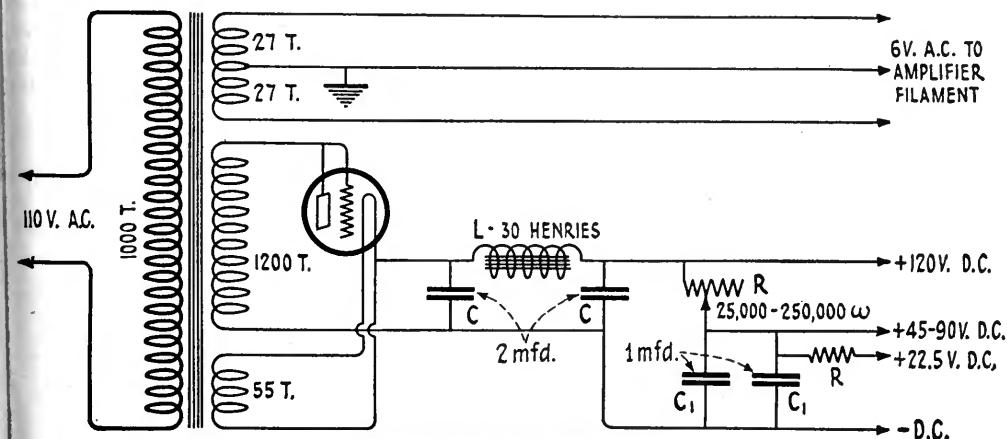
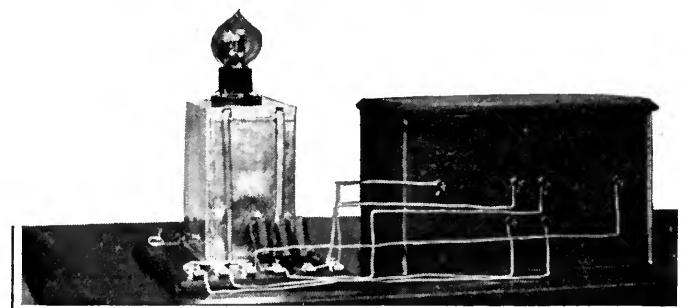

FIG. 6
FIG. 7
A fourth source of disturbance is often found in the stray flux or leakage of alternating current magnetism from the cores and wires of the current supply set. An amplifier that has some inherent unbalance or tendency to "howl" will invariably exhibit a loud hum when supplied with alternating current, although it may appear perfectly stable when supplied with direct current. The remedy in such a case is to place the entire current supply set in a tin or iron shield, and to connect the shield to earth. Fig. 7 shows a view of a current supply set connected to a two-stage amplifier, where it was necessary to shield the entire supply set. Here all leads were shielded with lead covered sheath, and the entire shielding system was grounded. Any iron box may be used to contain the set, such as an old panel switch box, biscuit tin or other tin container. Holes may be cut in the box to accommodate the socket and leads, and these should be very well insulated to prevent arcing of the high voltage.
**T**HE writer has indicated a secondary winding No. 2 to give 120 volts direct current, but this value may be altered to suit the builder's particular needs. The set illustrated in the photograph actually delivers 200 volts, which are applied to the plate of a power amplifier tube. Western Electric lavite resistances are inserted in series with the positive plate lead to give lower voltage values. The set illustrated in Fig. 7 delivered 120 volts, 90 volts, 45 volts or 22.5 volts, as might be required.
Multiple voltage may be obtained by the use of the proper resistance inserted in the plate lead. The method indicated on page 371 of the September RADIO BROADCAST by C. J. LeBel will be found to be satisfactory and still another method is shown in Fig. 6, and illustrated in Fig. 7. In this method, high resistances are placed in series with the positive B battery voltage, causing a drop of the desired amount. Fig. 7 shows three Western Electric No. 38-B lavite resistances connected in series, with taps taken off at the desired points. The writer has also
used the Bradleyohm with good results. The variable control of the Bradleyohm will be found useful in varying the detector plate voltage on soft tubes. Any number of resistances can be connected in series, taking taps off wherever desired, so that the proper voltages can be obtained. If any difficulty is experienced in eliminating hum when multiple voltages are employed, it may be eliminated by the use of proper by-pass condensers of 1 mfd. or 2 mfd. capacity shunted around the various taps. This is illustrated in Fig. 6, at C', where a 1 mfd. condenser is shown connected across the 45 volt tap.